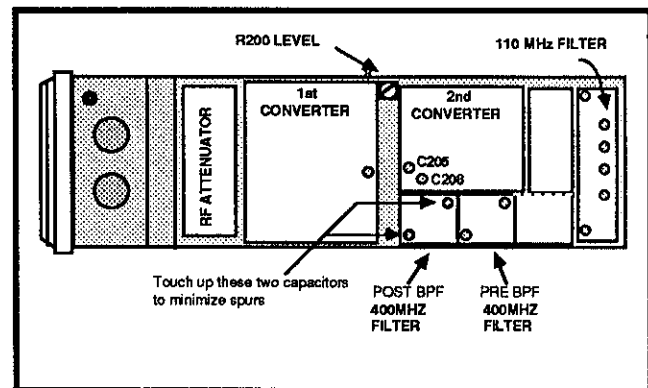

Figure 4-9. RF Mother board adjustment locations.
(5) Change the resolution bandwidth to 5 MHz, and press APPL MENU/#0 (BANDWIDTH MODE).
(6) Adjust six capacitors on the 110 MHz Filter and C399 on the Log board for highest amplitude, best filter shape, and centering about the stored 30 kHz filter, of the 5 MHz (4 to 6 MHz) pass band. Check for <1 dB of ripple. See Figure 4-9 for the locations of the capacitors and Figure 4-3 for the location of C399.